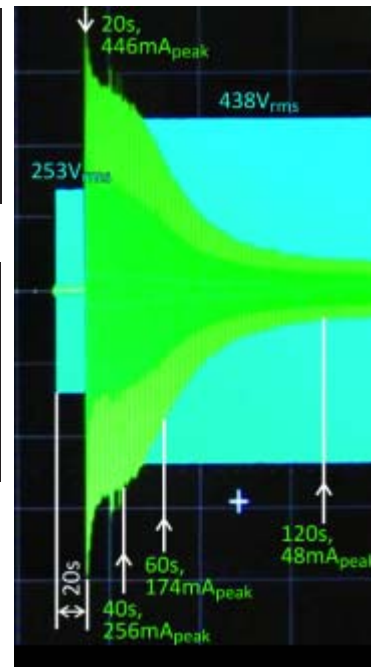

Figure 5: Oscilloscope of sample SAFETEC®, current flowing through the SPD at applied 438 V
In the case of SAFETEC® (Figure 5), when 438 V was applied on SPD, the current limiter (TC) was activated with limiting the initial 446 mA peak current passing through the varistor (MOV) to the peak 48 mA after 120 seconds and following reduction to the peak 10 mA (value of the varistor's energy capability) - the varistor is still fully functional - **after the overvoltage ends, no need for SPD replacement!**